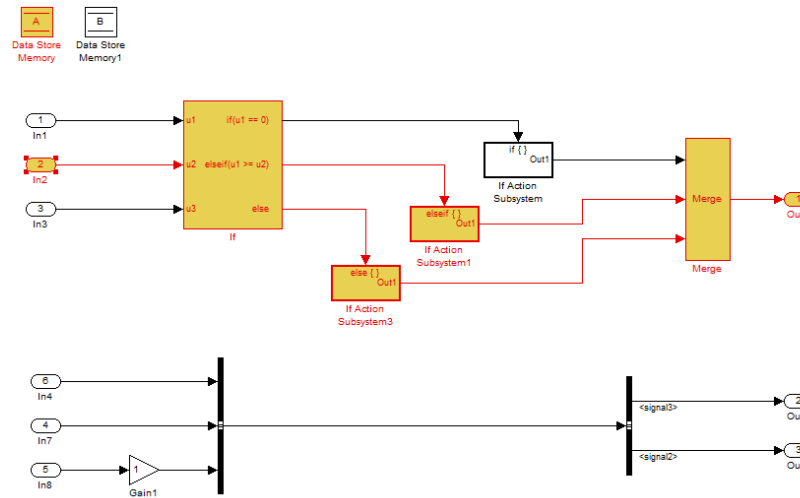

Figure 4: Resulting model after Reach From Selected operation.
1. Let us perform a reachability analysis to find all possible dependencies of the **Inport** block **In2**. To do this, right-click on the **In2** block and select the **Reach From Selected** option. The resulting model is shown in Figure 4. Due to the fact that **In2** is used in the last two condition checks of the **If** block and its data flow is traced to **Output** block **Out1**. Doing a reachability analysis on **In2** also shows clearly that it impacts the **Data Store Memory** block **A**.